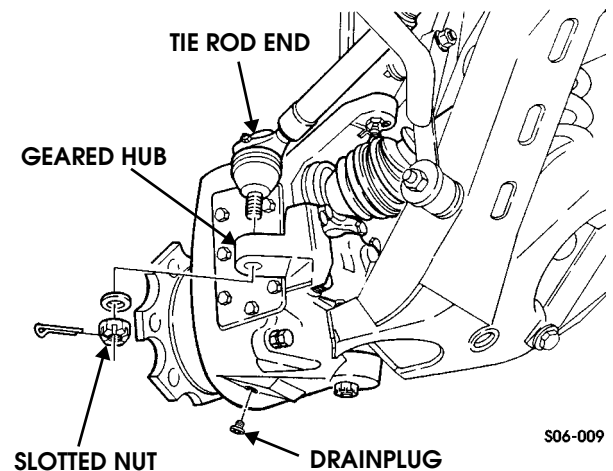

Figure 9-12: Geared Hub Drainplug Location
2. Remove drainplug from geared hub and drain geared hub (Figure 9-12).
6. Remove cotter pin, slotted nut, and washer from tie rod end. (Figure 9-12).
8. Insert tie rod end into geared hub and secure with washer and slotted nut. Tighten slotted nut to 70 lb-ft (95 N•m). Install cotter pin (Figure 9-12).